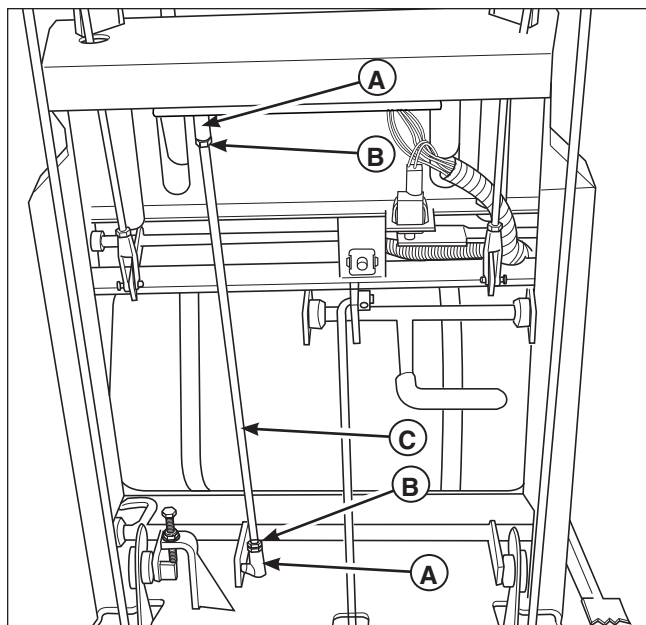

Figure 24. Neutral Adjustment
2. There are two jam nuts (**B, Figure 24**) on the linkage rod (**A**). Loosen the jam nuts on the linkage rod and turn the linkage rod to adjust.